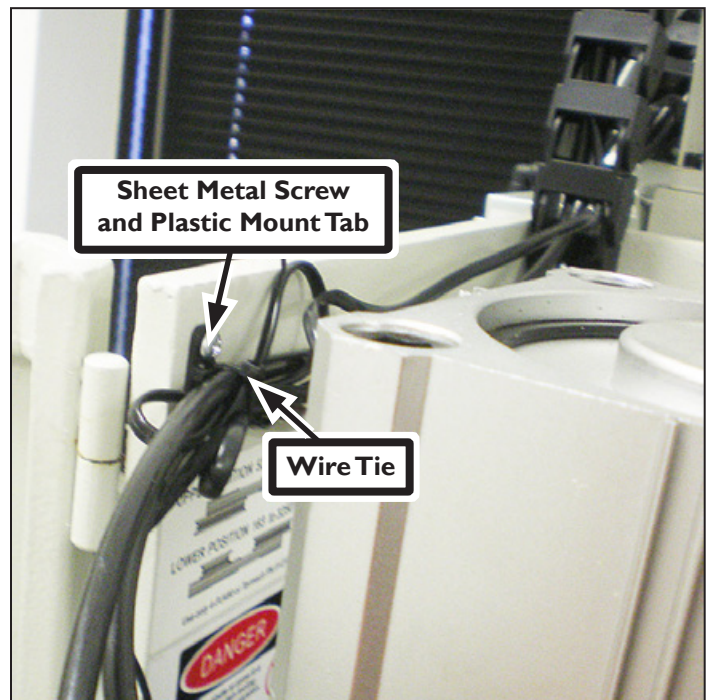

Figure 19
8. Using a Phillips screwdriver, mount the Plastic Mount Tab with one Sheet Metal Screw as shown in **Figure 19**. This will be used to bundle the Pendant wire and air tubes securely.
- Bundle the air tubes and Pendant wire so that they are up and out of the way. Using a Wire Tie, mount them to the Plastic Mount Tab installed earlier in this section (see **Figure 19**).
NOTE: Access will likely be easier to swing the cylinder out of the way. Tighten the Latch Adjustment Screws one additional turn and then, without turning these screws, further tighten the Jam Nut (see **Figure 19**).